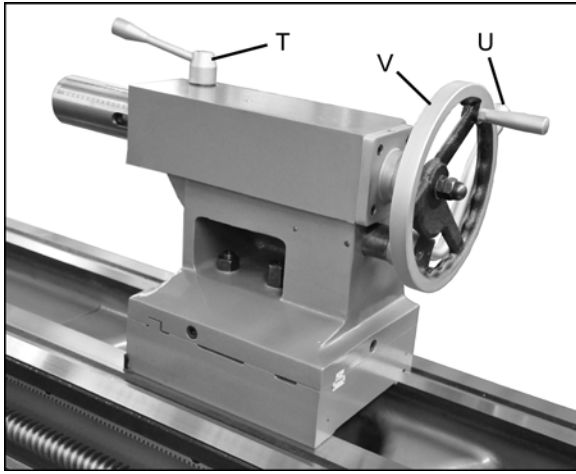

Figure 26 – Tailstock controls
16. **Tailstock Quill Clamping Lever (T, Figure 26):** Rotate clockwise to lock the sleeve. Rotate counterclockwise to unlock.
17. **Tailstock Clamping Lever (U, Figure 26):** Lift up to lock. Push down to unlock.
18. **Tailstock Quill Traverse Handwheel (V, Figure 26):** Rotate clockwise to advance the quill and counterclockwise to retract it. Fully retract it to eject a center or drill chuck.